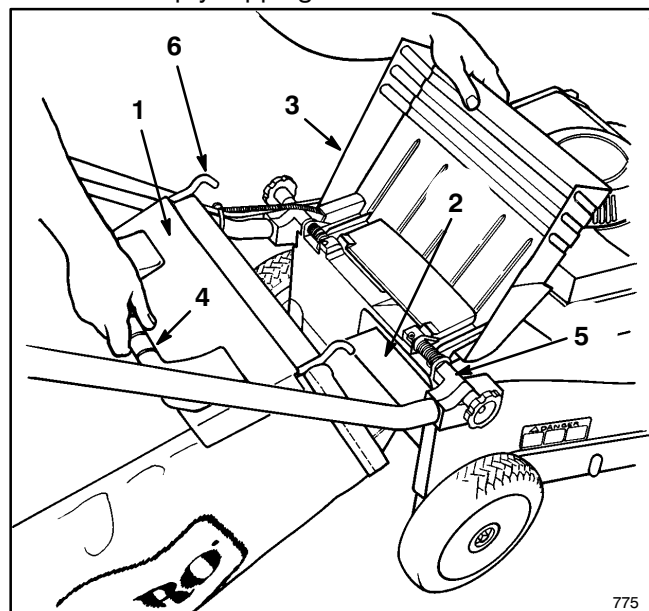
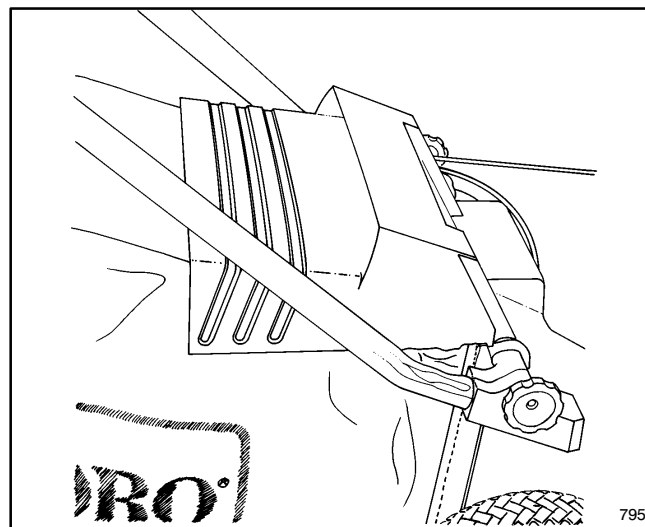

Figure 12
Figure 13
2. INSTALLING BAG—Raise discharge door, slide bag ramp attached to bag into discharge opening, and hook bag frame onto mounting bracket (Fig. 12). Allow discharge door to rest on top of bag (Fig. 13).